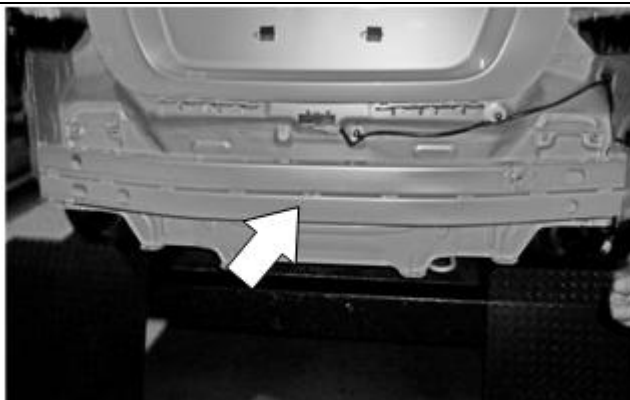

Figure 2 – Remove Bumper Support.
2. Remove the bumper support. Refer to Figure 2.